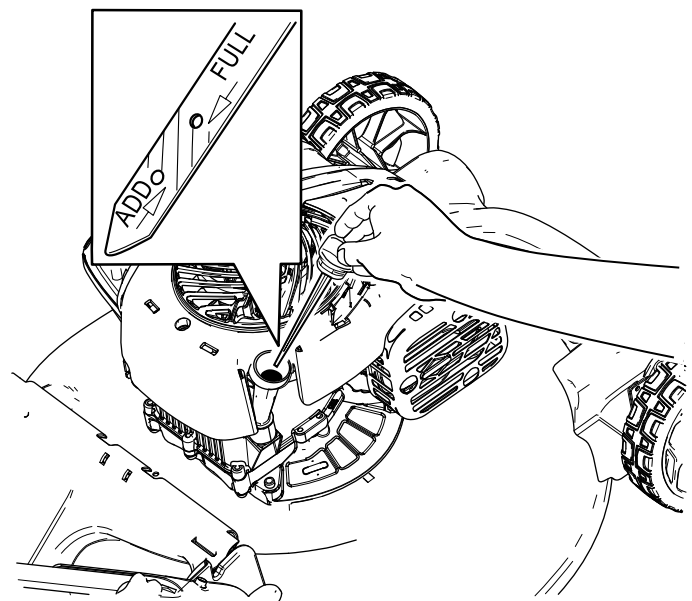

Figure 18
3. Remove the dipstick by rotating the cap counterclockwise and pulling it out (Figure 18).
10. Read the oil level on the dipstick (Figure 18).